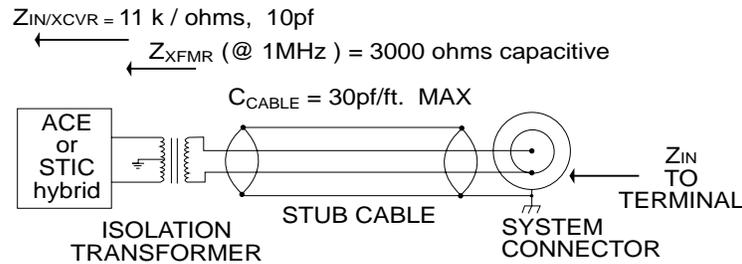

FIGURE 4. ISOLATION TRANSFORMER-TO-SYSTEM CONNECTOR IMPEDANCES
For the -15V/+5V ACE and STIC hybrids the transceiver input impedance is specified as follows: 11k ohm min, 10 pF max. Reference Figure 4. This characterizes a differential measurement taken between the TX/RXA(B) and $\overline{\text{TX/RXA(B)}}$ pins of the hybrid. It includes both the transmitter and receiver (tied together internally), is applicable to both powered and unpowered conditions with power and ground pins connected, and assumes a 2 V_{rms} balanced, differential, sinusoidal input for making the impedance measurement.